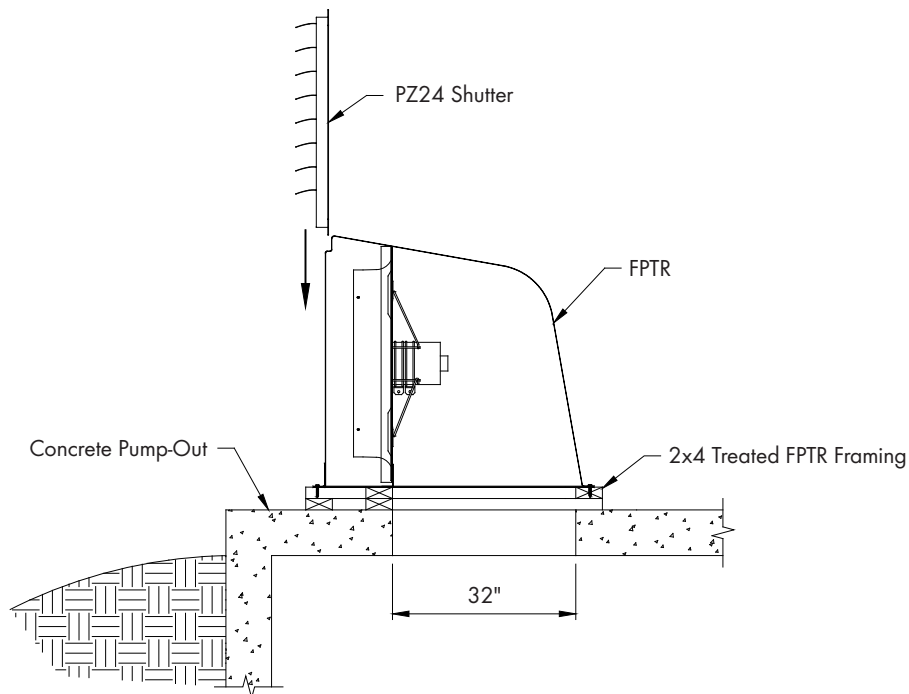

Figure 15
If a PZ24 shutter is being used then slide it into the slots of the FPTR and secure it using (6) TEK Screws [B]. *See Figure 15.* Installation is now complete. Proceed to Step 15.